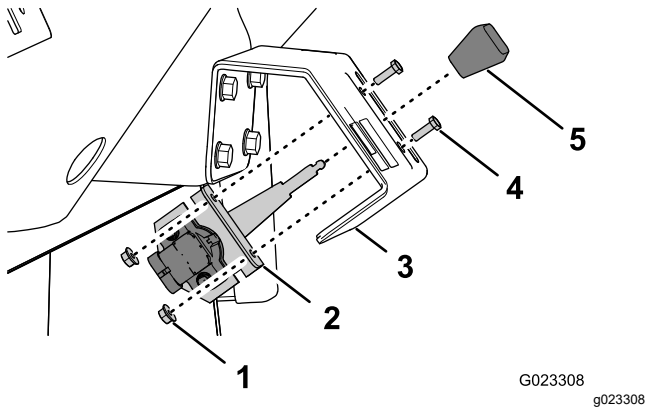

Figure 18
1. Remove the knob (if it is installed) from the lever of the hand throttle (Figure 18).
2. Align the lever hand throttle to the slot in the hand-throttle bracket, and align the holes in the mounting bracket that is attached to the hand throttle to the hand-throttle bracket (Figure 18).
3. Secure the hand throttle to the hand-throttle bracket with the 2 bolts (10–32 x 5/8) and 2 nuts (Figure 18).